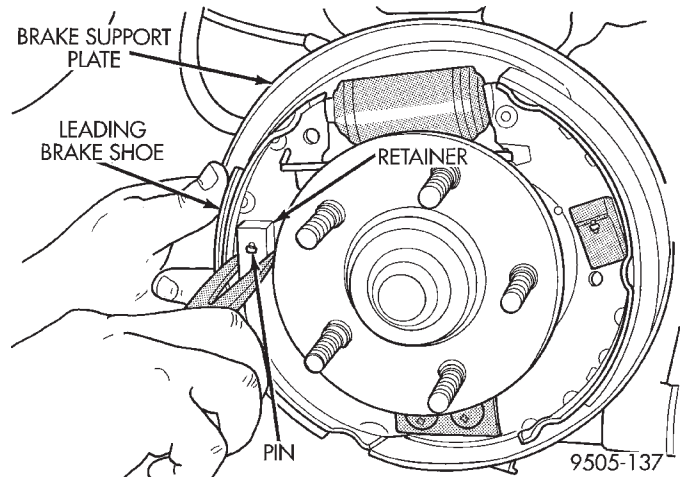

Fig. 66 Leading Brake Shoe Retainer
(9) Remove the brake shoe retainer and pin (Fig. 66) from the leading brake shoe assembly.
(6) Be sure leading brake shoe assembly is squarely seated on the brake support plate shoe contact areas. Then install the brake retainer on the retainer pin (Fig. 66).